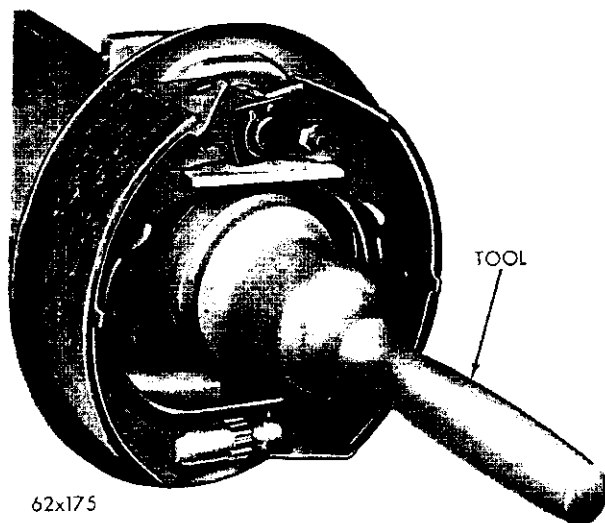

Fig. 37—Installing Output Shaft Oil Seal
(5) To install a new seal, position the seal in the opening of the extension housing with the lip of seal facing inward. Drive the seal into the housing with Tool C-3837 (Fig. 37).
(6) Install the brake support grease shield and spring.
(7) Install the brake drum and flange assembly. Tighten the flange nut to 175 foot-pounds torque.
(8) Connect the propeller shaft to the front flange.
(4) Place a new seal in the opening of the extension housing (lip of seal facing inward). Using Tool C-3837, drive the seal into the housing until the tool "bottoms" (Fig. 37).